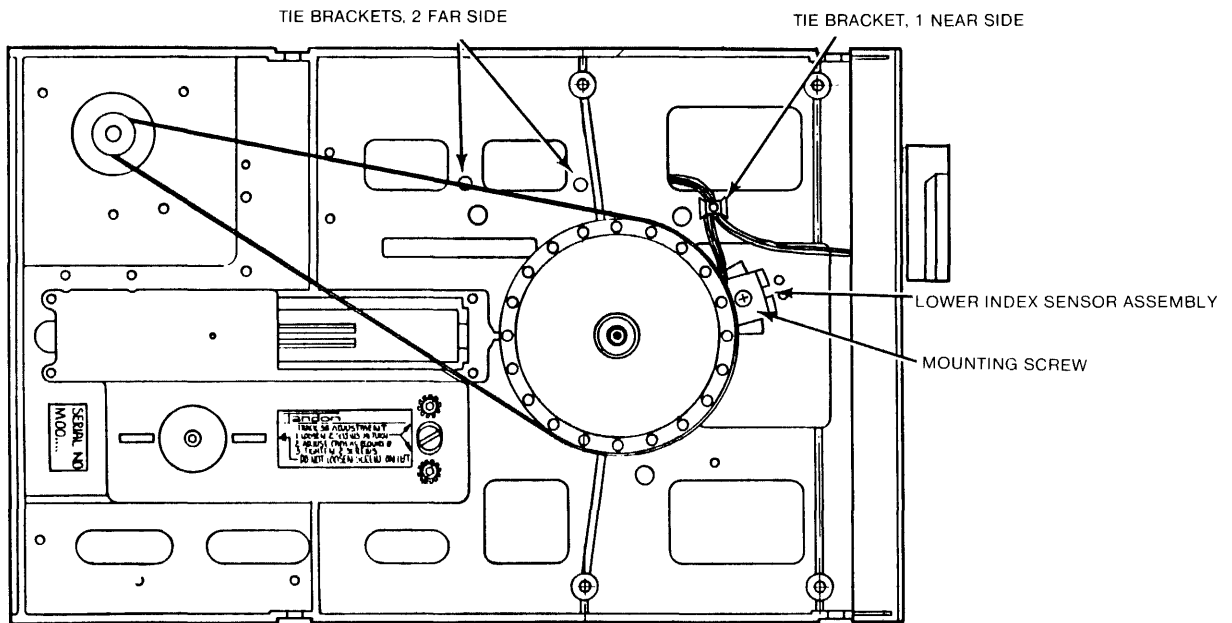

Figure 5-17
- C. Turn the drive over and remove the mounting screw from the Index Sensor Assembly (see Figure 5-17).